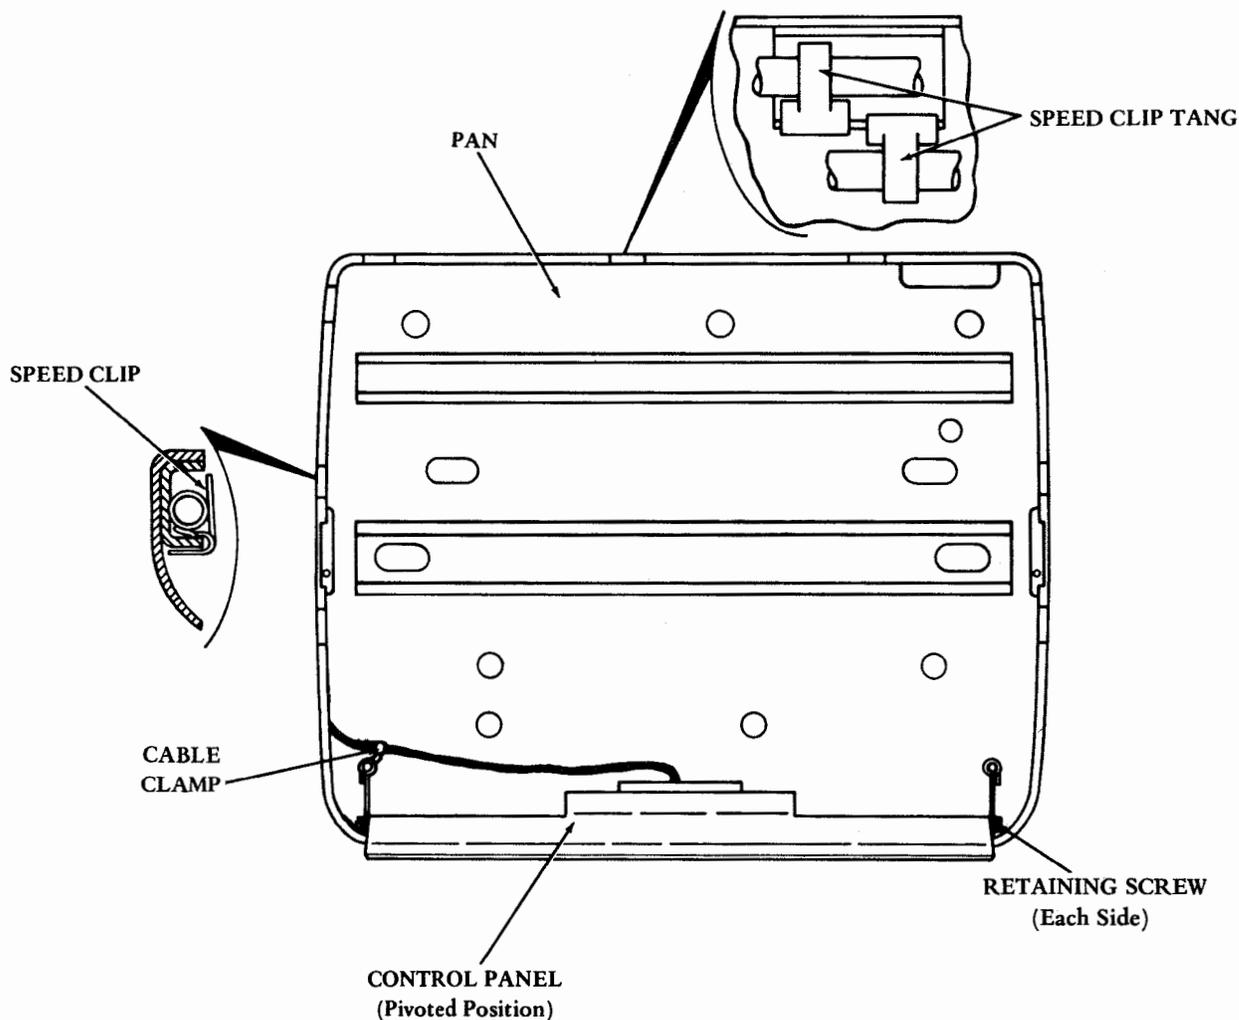

Figure 7 - Control Panel Cable Routing
2.03 To remove the control panel, proceed as follows (Figures 7 and 9).
- 2.11 To remove the typing unit cover and pan, from the table, proceed as follows (Figures 7, 8, and 9):